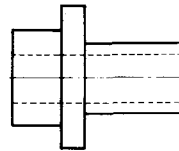

Fig. 3.79
10. Draw in half-section the parts shown in Figs 3.79 and 3.80.